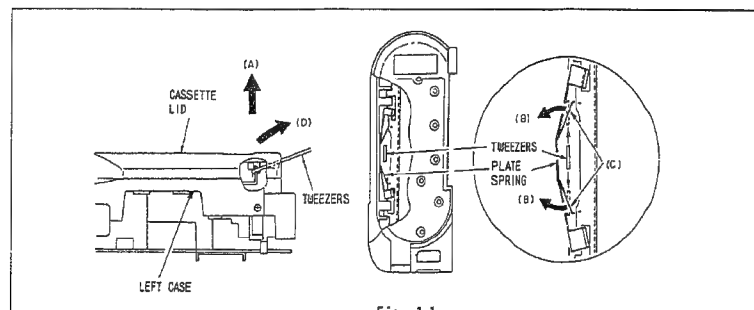

Fig. 1-1
- ② Lift the cassette lid in the direction of arrow (A) and insert tweezers between the cassette lid and left case. (Fig. 1-1)
- ③ Release two (2) tabs (C) of the plate spring in the cassette lid in the direction of arrows (B) and remove the cassette lid in the direction of arrow (D).